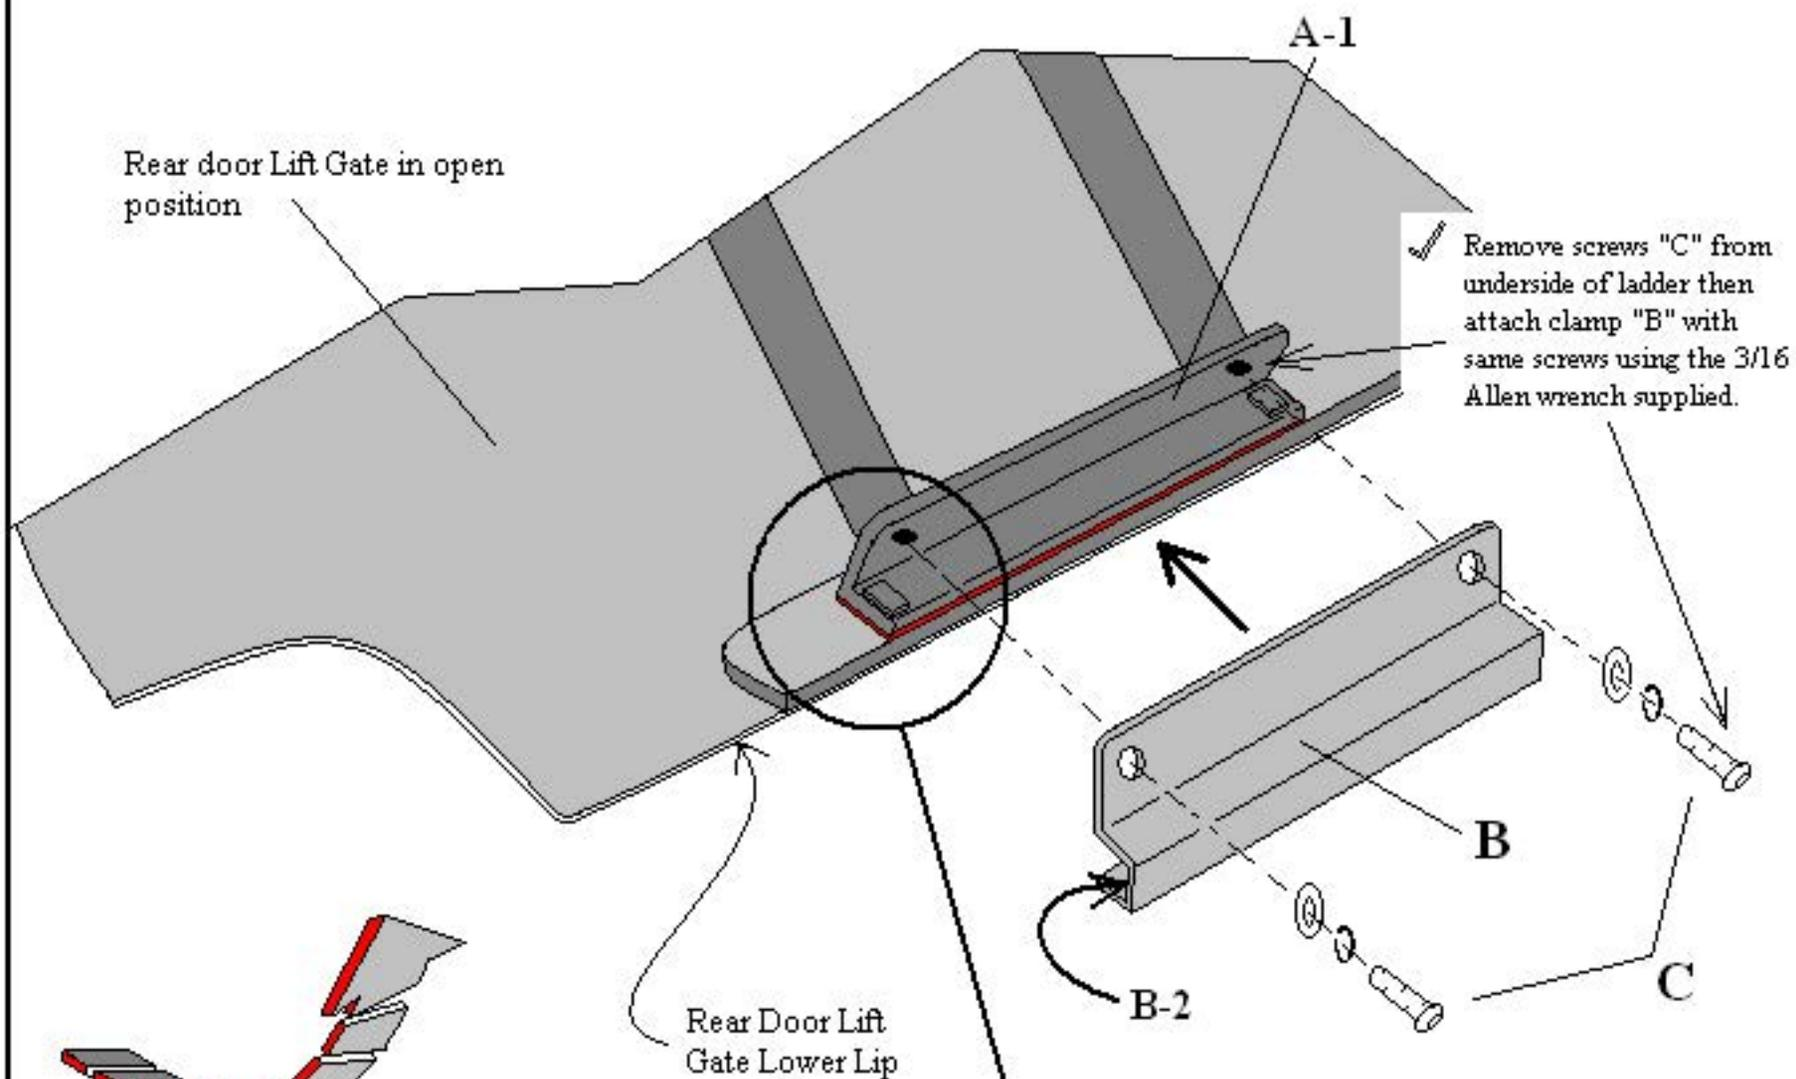
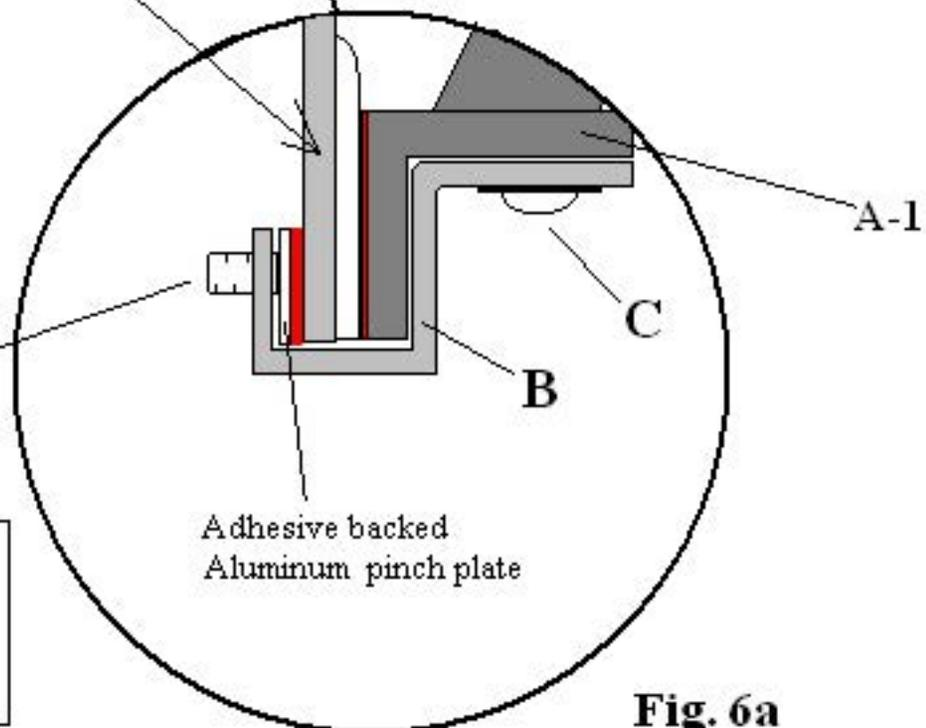

Fig. 6
Fig. 6a
- 9- Refer to page 9 Fig. 6 and Fig. 6a with the help of another person while still holding the ladder against the lift gate rear door, open lift gate and install clamp "B" to the bottom of ladder "A-1" and rear door lift gate as shown in Fig. 6. Thread the two 5/16-18 x 1" button head screws, lock washers and flat washers just recently removed back into the bottom of the ladder using the 3/16" Allen wrench and fully tighten at this time. Continue to the inside of clamp "B" and tighten screws "B-3" using the 1/8" Allen wrench supplied in your kit as shown in Fig. 6a. Caution do not fully bear down on screws "B-3" only two full turns are needed after screw contacts pinch plate.